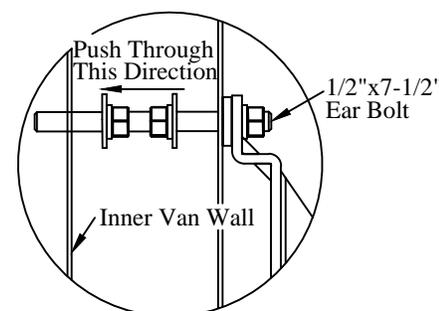

Figure 7: Mounting ear bolt hardware.
12. Insert each ear bolt through the inner van wall (Figure 7).